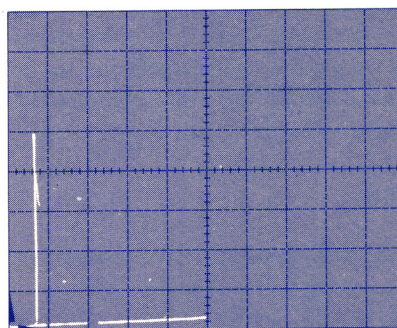

Figure 4-2. Display showing gate trigger current I_{GT} .
- 4) Apply gate current — Slowly increase OFFSET MULTIPLIER SETTING, while carefully watching display. When trace switches suddenly from mostly horizontal line to vertical curve, SCR has turned on. See Figure 4-2. Note value shown on OFFSET MULT dial at this point. 24